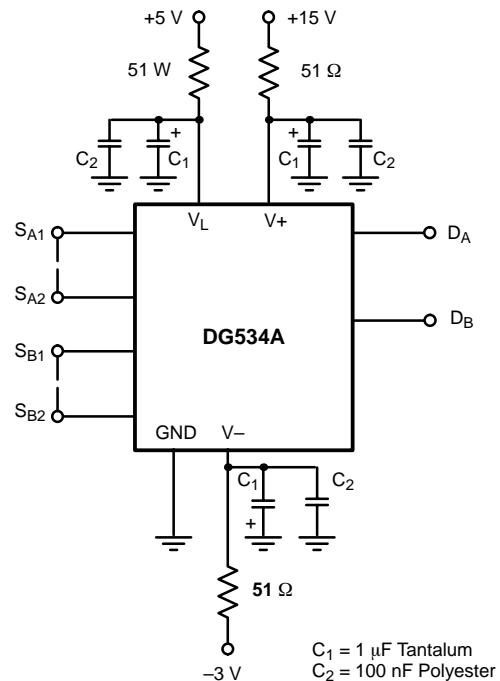

FIGURE 14. DG534A Power Supply Decoupling
- d. Additional high frequency protection may be provided by 51- Ω carbon film resistors connected in series with the power supply pins (see Figure 14).